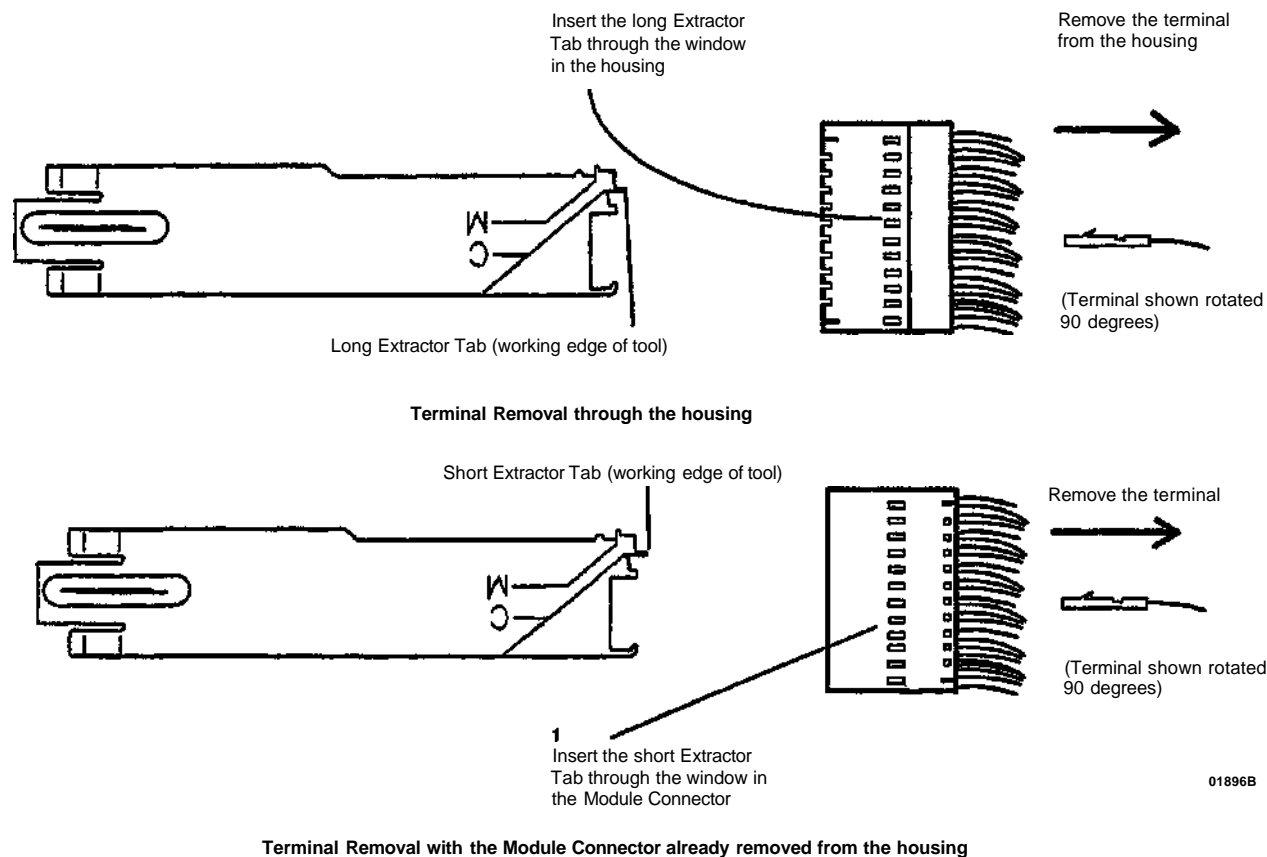

Figure 3. Removing the Terminal from the Connector
3. (Figure 3): Remove the terminal from the connector.